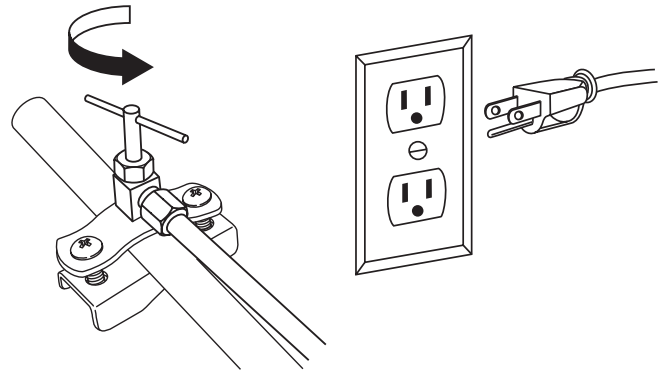

Figure 15
3. Open the shut-off valve for the water supply and check the entire water system for leaks. Before the appliance is used for the first time a licensed plumber should bleed air from the system (**Figure 15**).
4. Insert the electrical plug for the combined refrigerator/freezer into the electrical outlet (**Figure 15**).